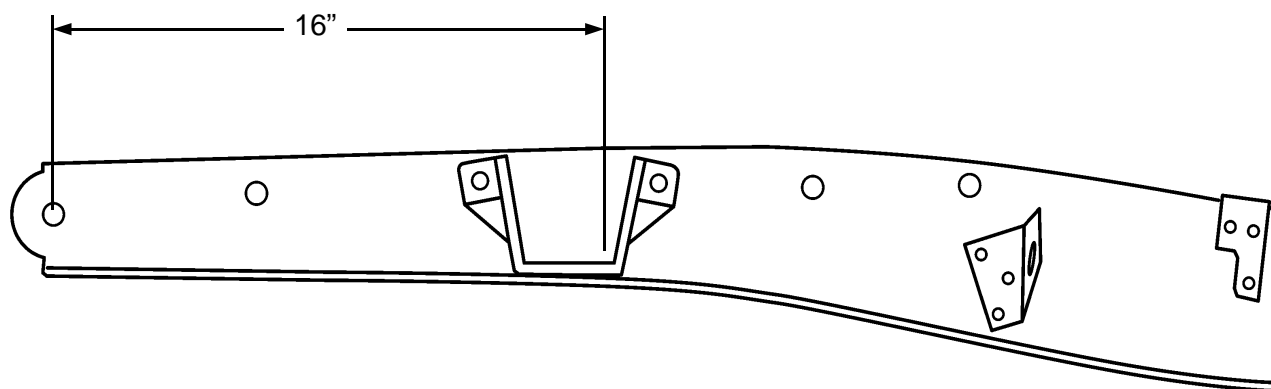

Figure 1
3. Measure back from the hole at the front of the frame 16" and scribe a mark. See figure 1. Scribe a line around the frame rail at the scribed mark. This scribed line is the spindle centerline.